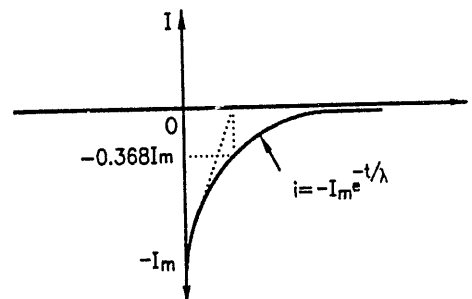

FIG. 1.183
- It is shown graphically in the Fig. 1.183.